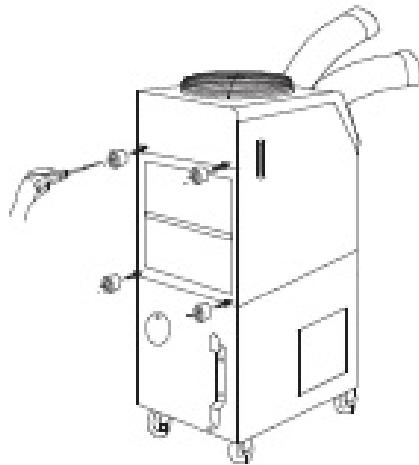

Figure 4 – Rubber Stopper attachment
2. Place the Rubber Stoppers on the rear of the unit as shown in Figure 4